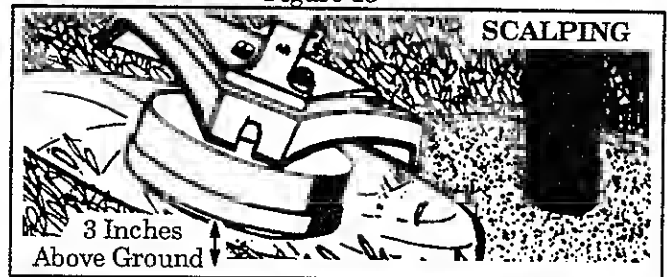

Figure 14
2. **SCALPING** – Figure 14. The scalping technique removes unwanted vegetation. Hold the bottom of the trimmer head about 3 inches above the ground and at an angle. Allow the tip of the line to strike ground around trees, posts, monuments, etc. *This technique increases line wear.*